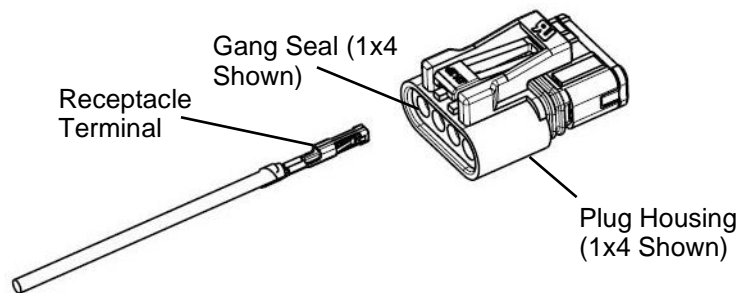

Figure 8
3. Align the terminated tab or receptacle contact with the appropriate cavity at the back end (wire side) of the plug or cap housing. This alignment is to help ensure that the gang seal will not be damaged during the insertion process. See Figure 8.